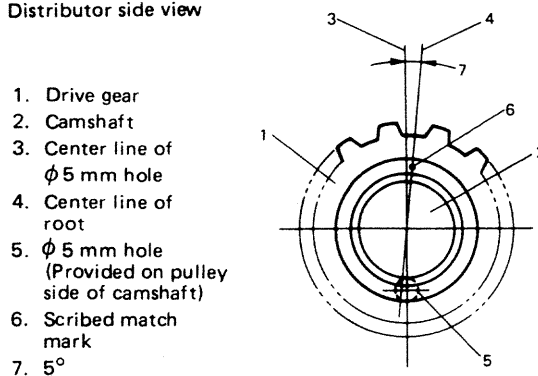

Fig. 8-25
- Before removing drive gear from camshaft, scribe a match mark on this shaft to root center line of drive gear as shown in Fig. 8-25 and, when mounting replacement drive gear, refer to this mark.
- When pressing replacement drive gear onto camshaft, be sure to position gear angularly as shown in Fig. 8-25. (align mark on camshaft scribed in removal with root center of drive gear)